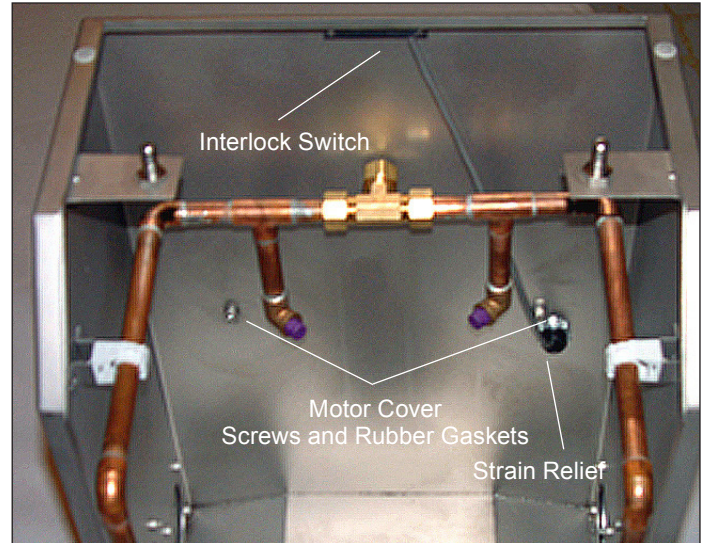

Figure 23. Interlock Switch Assembly
2. The motor cover is secured to the cabinet with eight (8) screws. Remove two (2) screws with rubber gaskets accessed from inside the cabinet (Figure 23). Remove the six (6) outer screws securing cover to cabinet and remove motor cover.
5. Loosen strain relief on back of cabinet (Figure 23).
12. Install motor enclosure cover with outer six (6) hex screws and washers and two (2) inner hex screws and rubber gaskets (Figure 23).